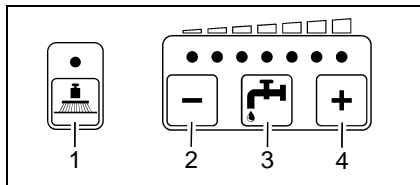

Fig. 22
- Reduce solution quantity (Fig. 22/2)
- Increase solution quantity (Fig. 22/4)
- Solution feed on/off (Fig. 22/3)
- Increase brush pressure (Fig. 22/1)